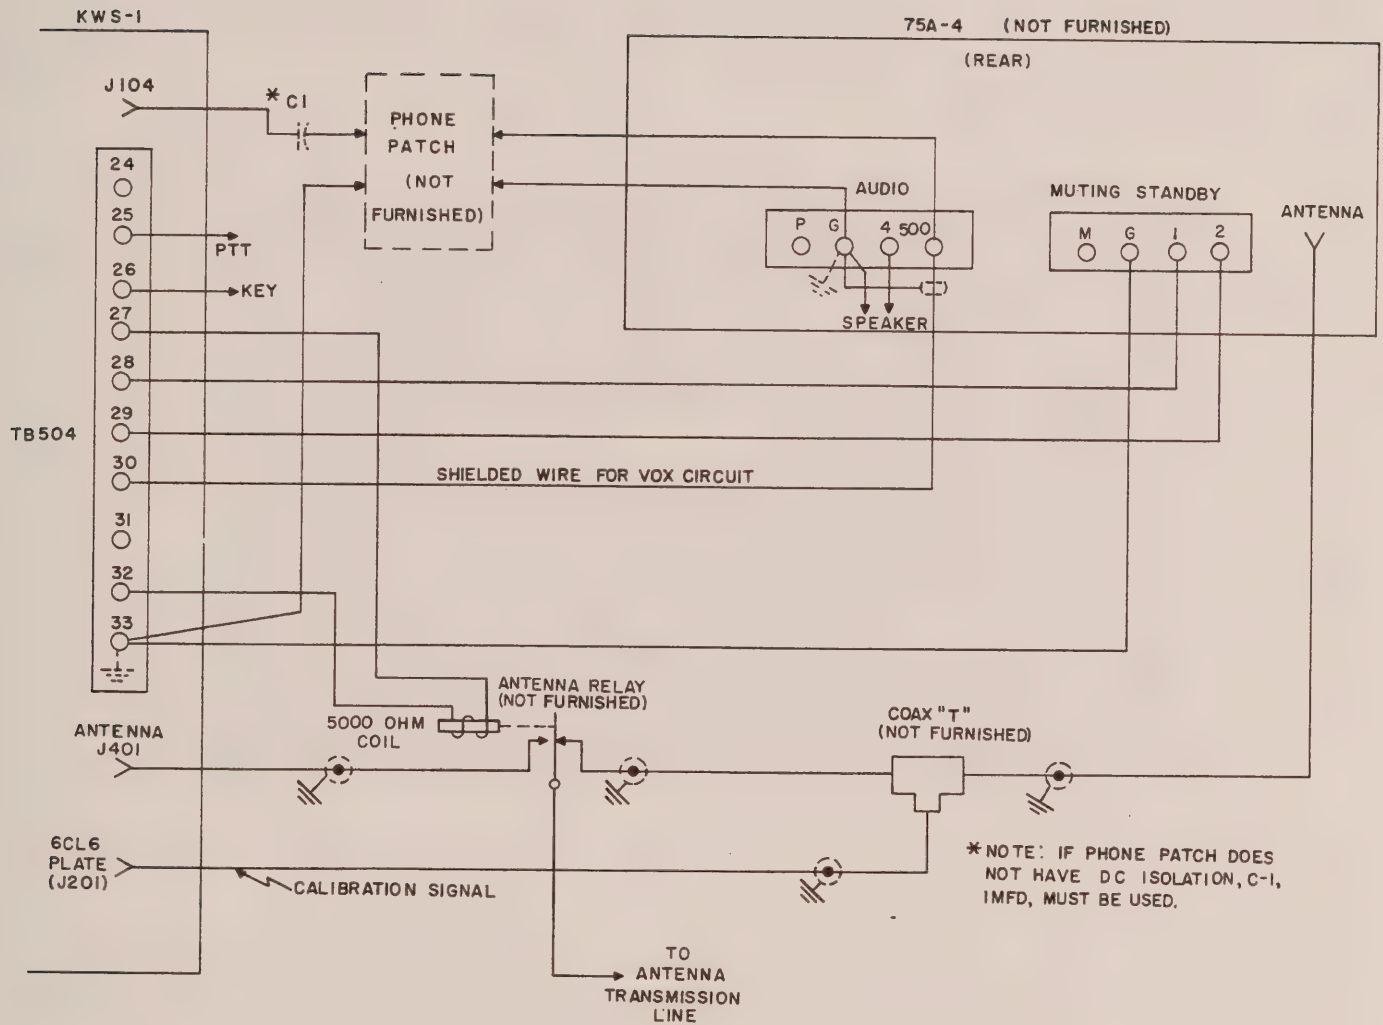

Figure 2-3. KWS-1 Connections to Collins 75A-4 Receiver
d. Connect receiver break-in circuits, key line, antenna relay, etc., into TB504 at rear of Power Supply. (See figure 2-2.) If connections to a 75A-4 receiver are desired, refer to figure 2-3.
f. Plug antenna coax line into J401 on rear of PA unit. It is recommended that either an r-f ammeter or a power indicating device be used between the KWS-1 and the antenna. It is also recommended that a coaxial antenna change-over relay be used. This relay must have an extra set of normally open contacts for use in grounding the key line interlock. A source of 115 V dc, switched by the break-in relay is provided by the Power Supply for operating the 115 V dc antenna relay coil. (See figure 2-3.)
g. Calibrate signal for the receiver can be secured by running a coax line from the receiver antenna post to the 6CL6 PLATE test point (J201). Run coax through large hole in rear of transmitter. (See figure 2-3.)